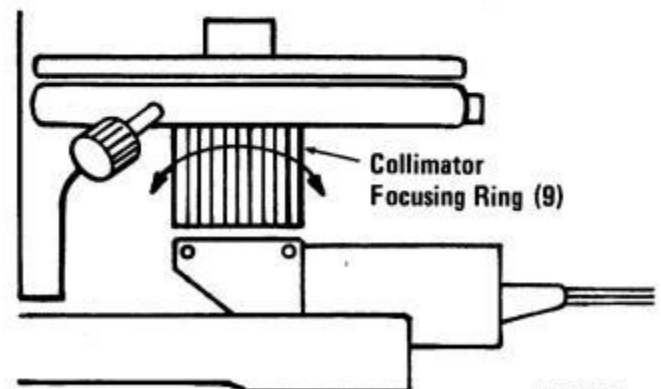

FIG. 6-5
- c) Turn on the collimator lamp (switch on power supply) and adjust the collimator by rotating the collimator focusing ring (9, Fig. 6-5) until the green colored cross lines come into sharp focus.
CAUTION: The collimator cross lines will come into, and go out of focus very rapidly. Rotate the focusing ring slowly. Fig. 6-5.